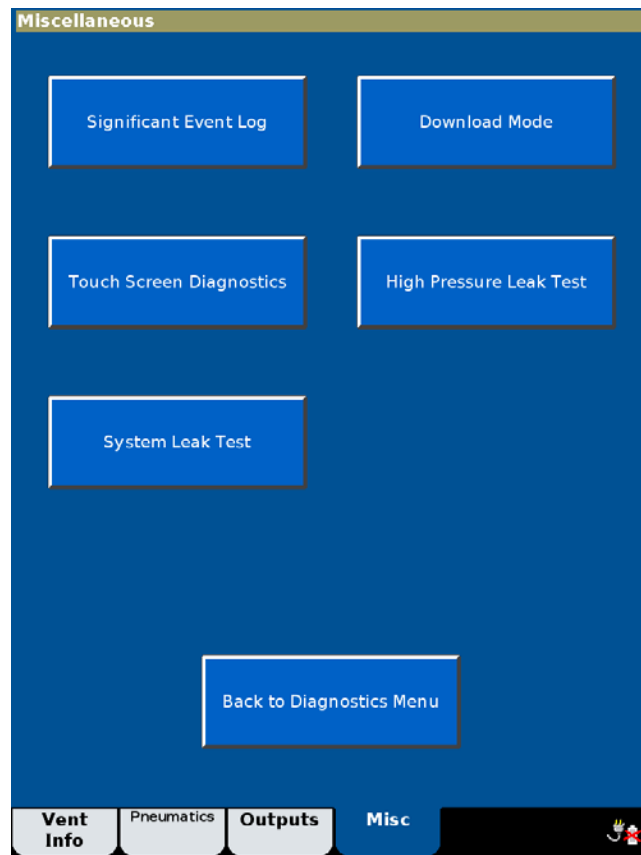

Figure 5-13: Miscellaneous Screen
2. The screen includes the **Significant Event Log**, **Download Mode**, **Touch Screen Diagnostics**, **High Pressure Leak Test**, and **System Leak Test** buttons (Figure 5-13).